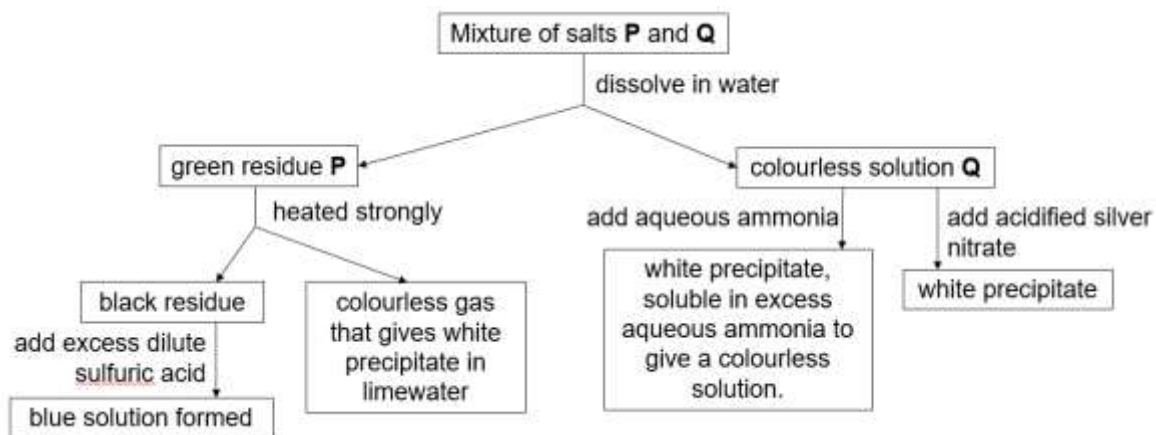

Fig. 1
- A1** Fig. 1 describes some of the substances that result from the chemical reactions of a mixture of two salts **P** and **Q**.
- (b) Write a balanced chemical equation for any **one** of the reactions included in Fig. 1.